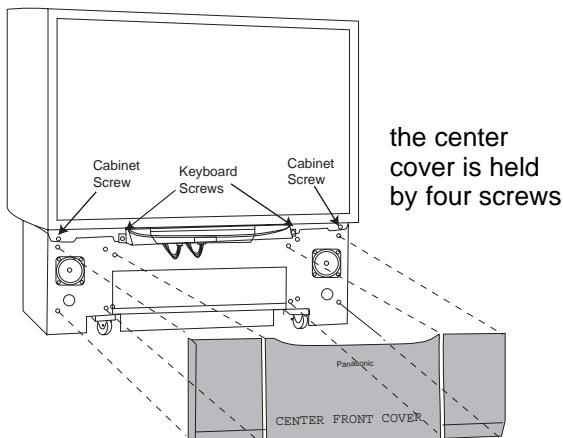

Figure 11. Front Cabinet Removal
### (Figure 11)
3. Remove (2) hex cabinet screws (See Figure 11)